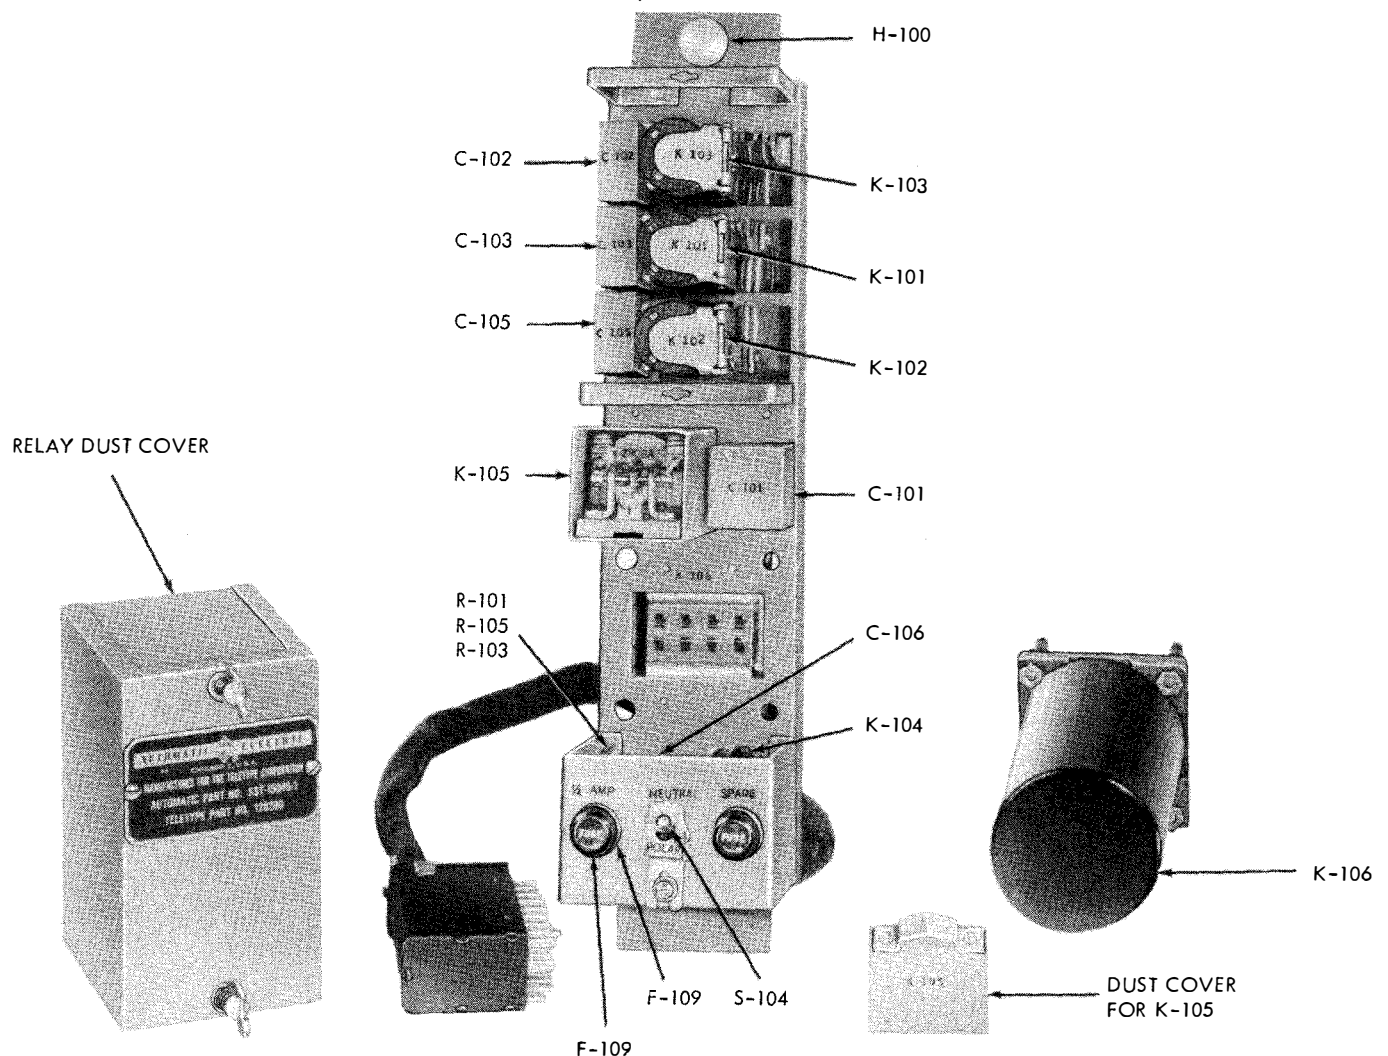

Figure 7-133. Control Panel SB-357/FGC, Front View
(1) Figures 7-133 to 7-137, inclusive, show the electrical components of the receiver and transmitter relay groups. All components within the relay groups are easily accessible and may be removed by unsoldering the leads connecting it to the component and then removing the bracket or screw holding it to the relay group.